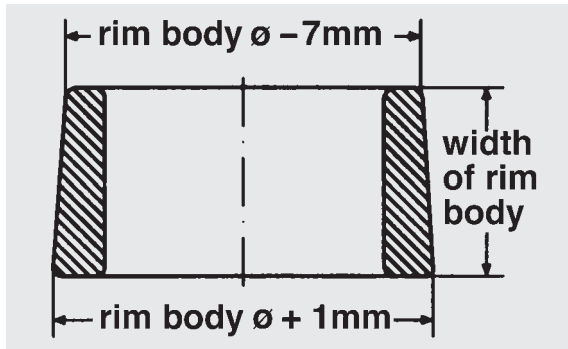

Fig 2. Pressure ring (A)
- **Pressure ring** (fig. 2) to suit the rim diameter (inner dia. = rim dia. + 2mm). Pressure blocks must not be used instead of this pressure ring!